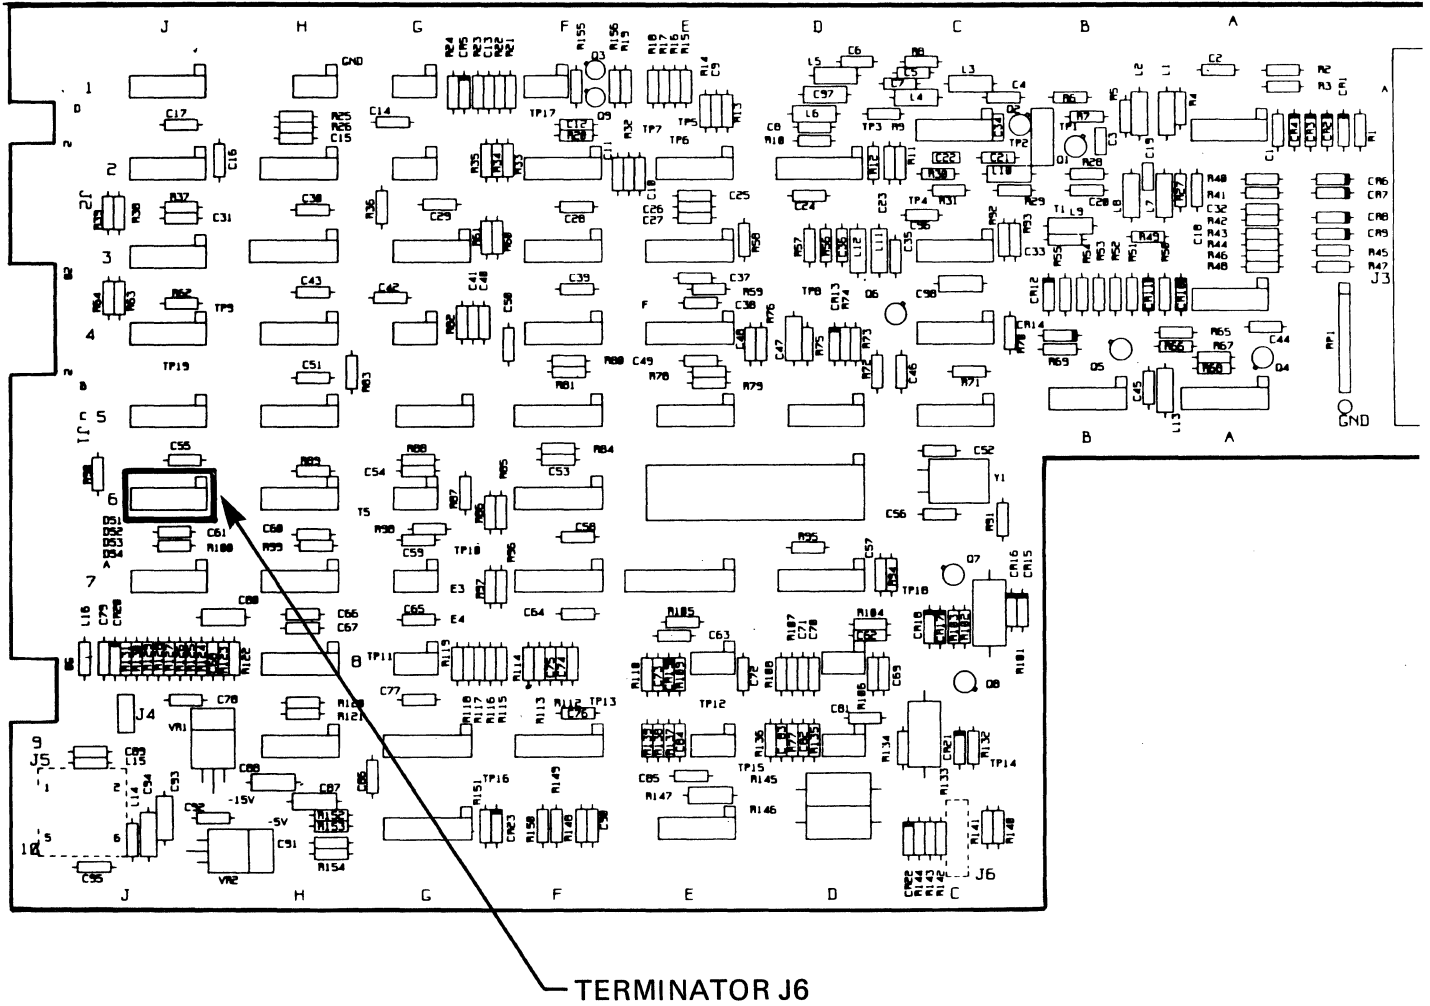

Figure 2-2. Drive PCB (Version A) Matrix Map
6. Refer to figure 2-2 and locate resistor pack terminator (J6) on the Drive PCB. Use a flat blade screwdriver to remove the resistor pack from J6. (Note that figure 2-2 shows only one of the two versions of the Drive PCB; the resistor pack terminator is located in approximately the same place on both versions of the Drive PCB.)